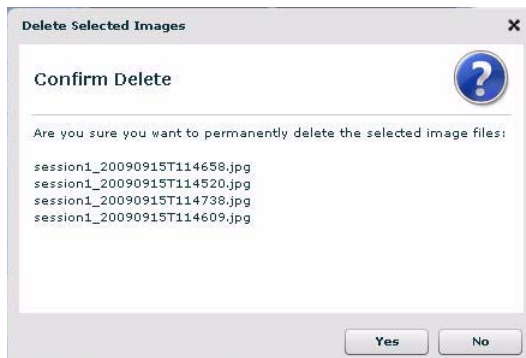

FIG. 123 Delete Selected Images dialog
4. The application prompts you to confirm this action before deleting any files, via the *Delete Selected Images* dialog - click **Yes** to proceed. (FIG. 123):